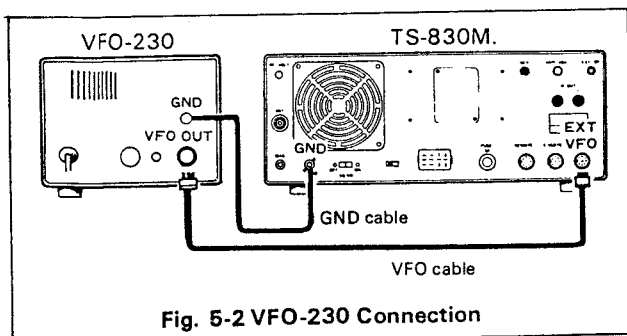

Fig. 5-2 VFO-230 Connection
■ VFO-230 CONNECTION (Fig. 5-2)
Connect the VFO-230 as shown in Fig. 5-2. You will enjoy advanced operation including split-frequency capability by combining a 20 Hz step digital VFO with five memories.